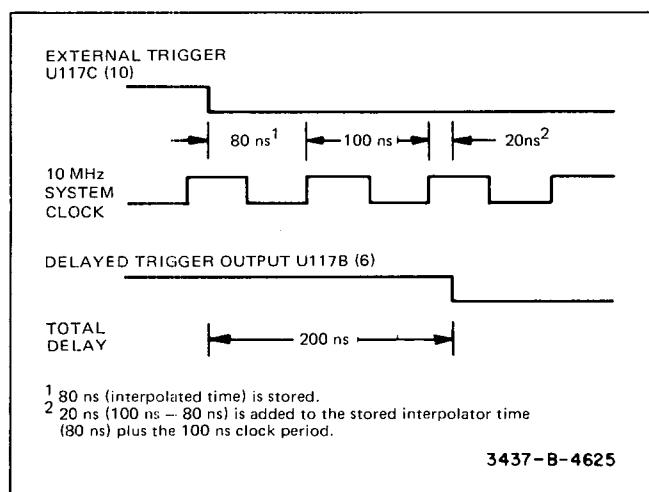

Figure 4-15. Analog Interpolation.
**4-64. Analog Interpolator.** The analog interpolator eliminates the potential time quantization error (100 ns) that is inherent between the 10 MHz system clock and external trigger input. Figure 4-15 illustrates the quantization error that occurs when a delay of 200 ns is programmed, and the external trigger is not synchronous to the 10 MHz system clock.